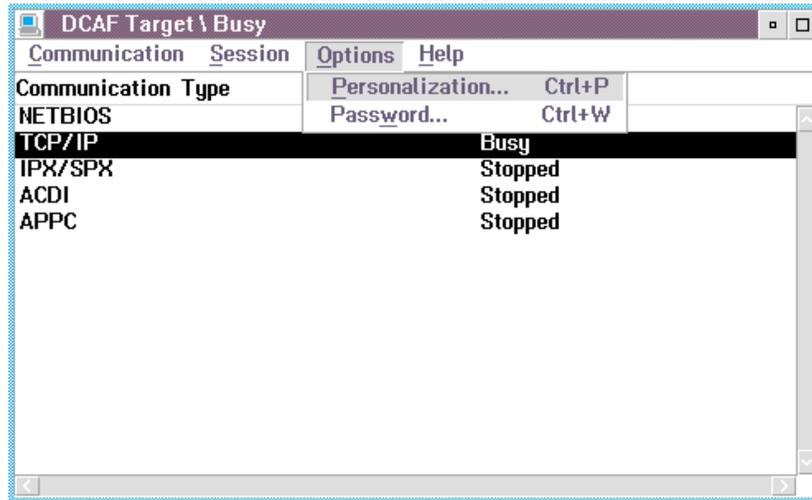

Figure 174. Options Menu
2. On the Options menu, select the **Password** option in the DCAF Target \ Busy window (see Figure 174 on page 279).